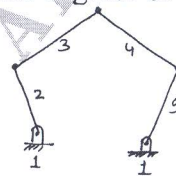

Fig.Q1(c)
- c. For the mechanism show in Fig.Q1(c), determine the degrees of freedom. (04 Marks)